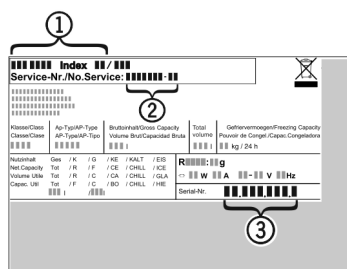

Fig. 4
- Read the appliance designation Fig. 4 (1), service No. Fig. 4 (2) and serial No. Fig. 4 (3) off the model plate located inside the appliance on the left-hand side.
- Notify the customer service, specifying the fault, appliance designation Fig. 4 (1), service No. Fig. 4 (2) and serial No. Fig. 4 (3).